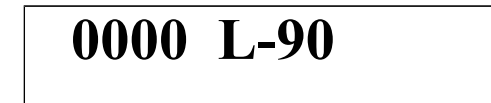

Figure 2
1. Press ENTER key 3 seconds to set Sensitivity. Then the panel shows 0000 L-90 (Figure 2). L means sensitivity, 90 means the value of sensitivity, the scope is from 0 to 99. The bigger number the higher sensitivity. Press Upward and Downward key to adjust the sensitivity value, after adjusting the sensitivity value, press ENTER key to save.